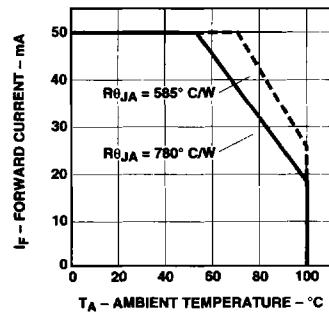

Figure 4. Maximum Forward Current vs. Ambient Temperature. Derating Based on  $T_{JMAX} = 130^{\circ}C$ .
- Derate linearly as shown in Figure 4.